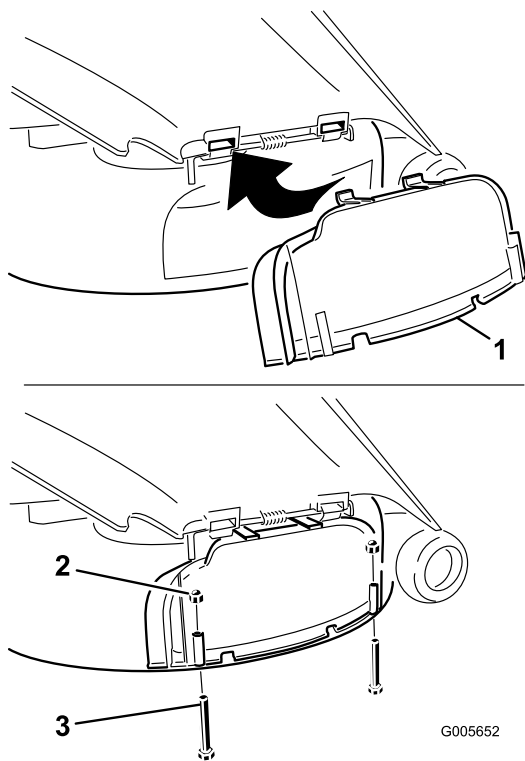

Figure 20
3. Lift the grass deflector and slide the tabs on top of the discharge cover under the grass deflector retaining rod. Rotate the discharge cover down over the opening, and onto the lower lip of the mower (Figure 20).
- Secure the discharge cover to the lower lip of the mower with two bolts (1/4 x 2-1/2 inches) and two cap nuts (1/4 inch) as shown in Figure 20.